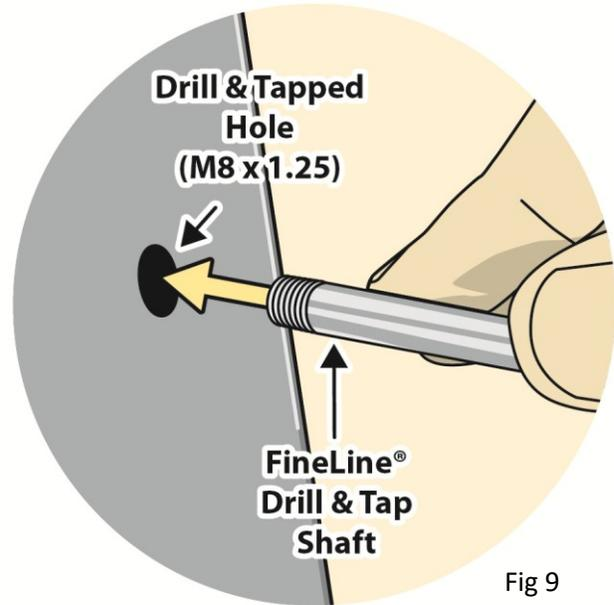

Fig 9
- Use a wrench if necessary to screw until fully seated (Fig. 9)